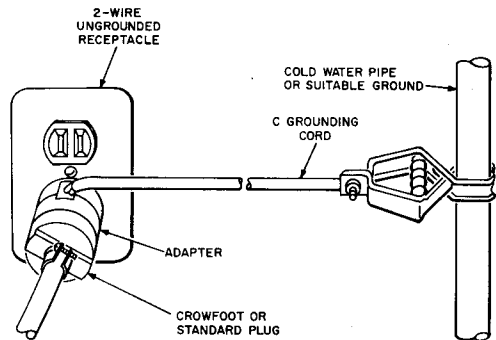

Fig. 5 — Ungrounded Outlet Box
D. Parallel Receptacles — Ungrounded Outlet Box (See Fig. 5 and 6.)